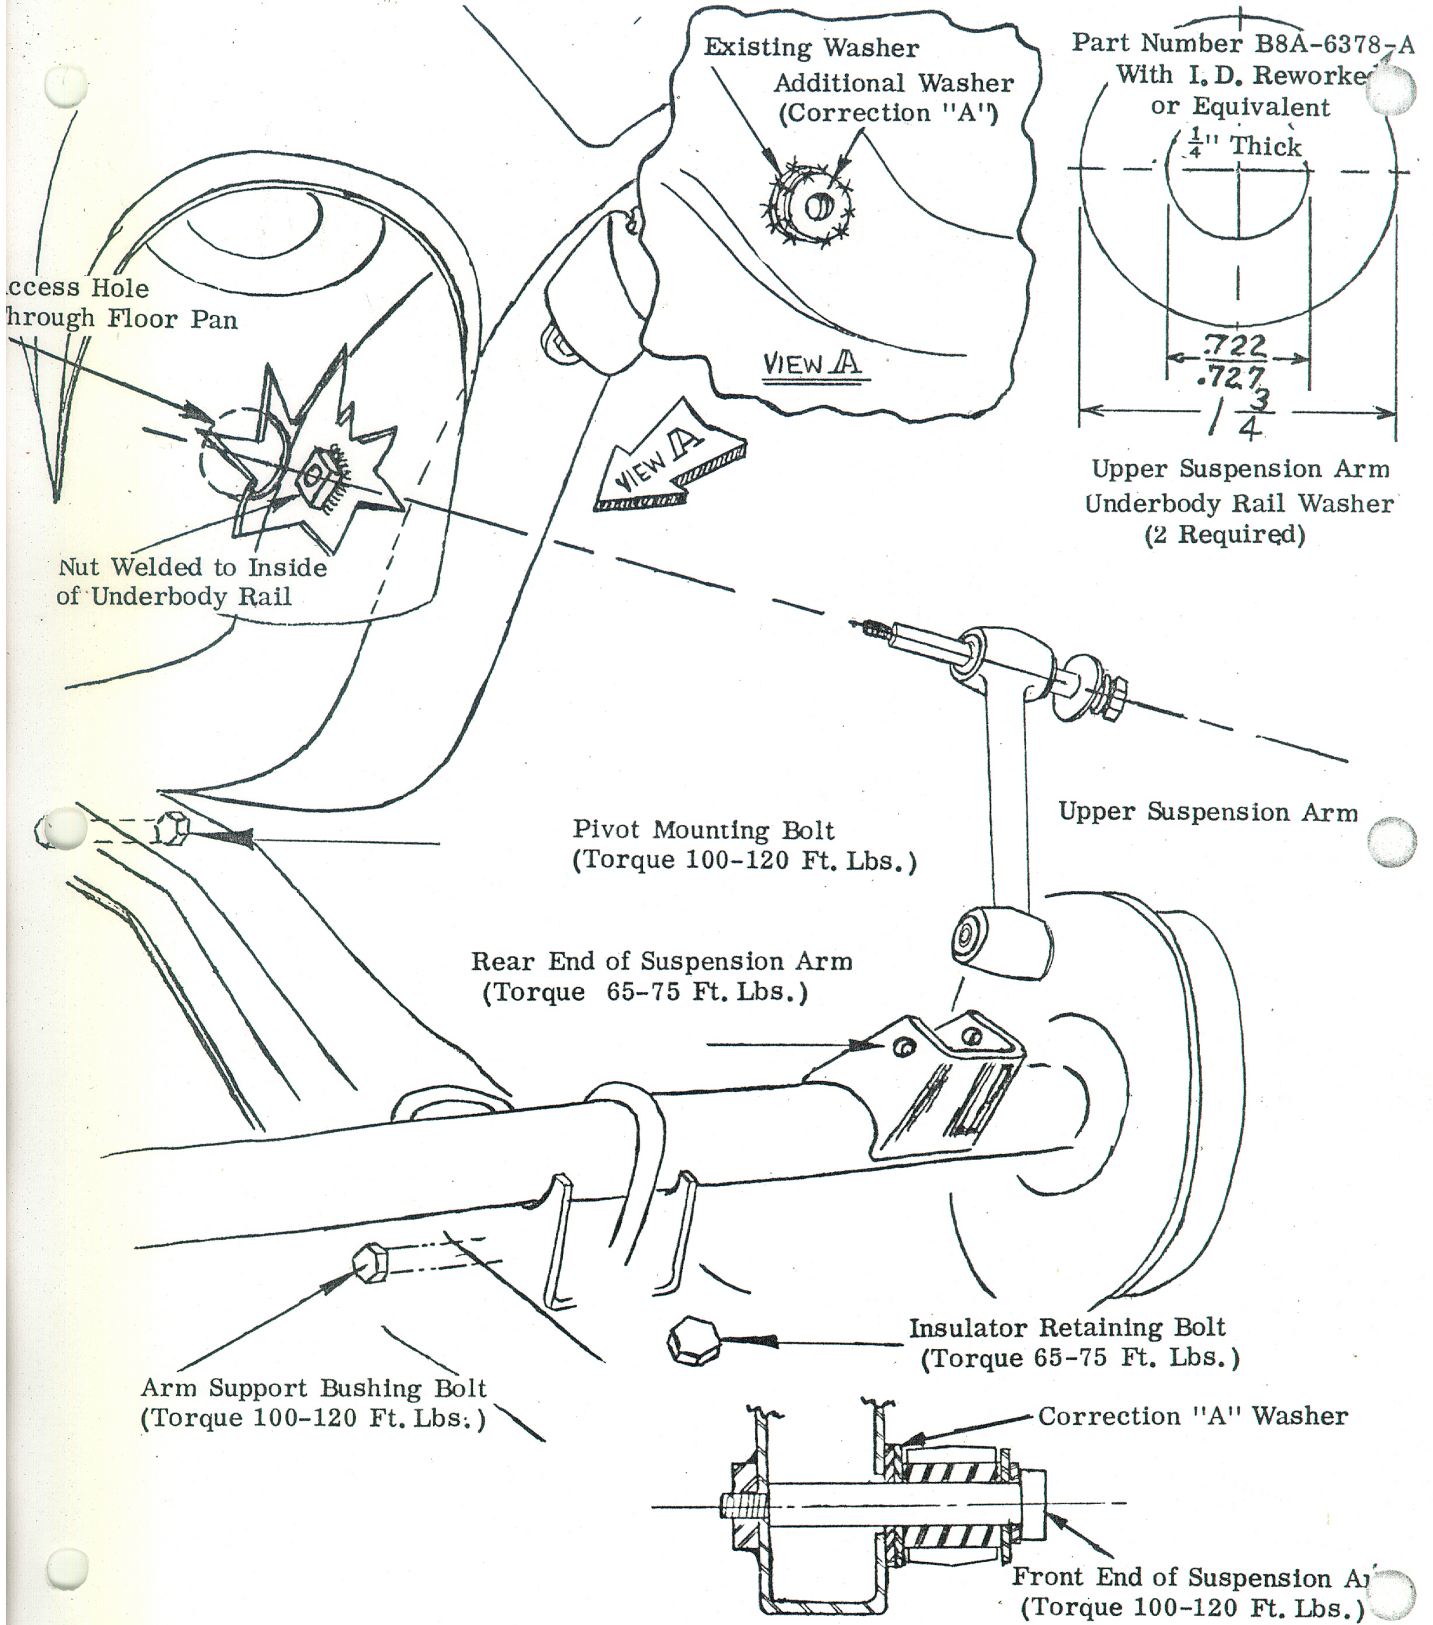

Fig. 1 - Rear Suspension - Noise Correction
When rear suspension noise problems are encountered, the rear suspension members should be torqued to the revised torque specifications as shown in Figure 1. In those cases where this retorquing operation does not eliminate the noise, and the noise is attributed to the upper suspension arm, the arm and attaching parts should be reworked as follows for the conditions which are found to exist.
4. Position reworked flat washers—B8A-6378-A over existing washers. See Figure 1. Insert bolts through washers into nuts to align washers for welding. Weld washers to underbody rails and remove bolts.
6. Install the arm and bushing assemblies (front bushing first) to underbody rail, then substitute (2) 34853-S7 split type lock washers for the star type washers removed.
8. Torque all remaining rear suspension bolts to revised torque specifications (See Figure 1) and remove support jack from beneath rear axle.